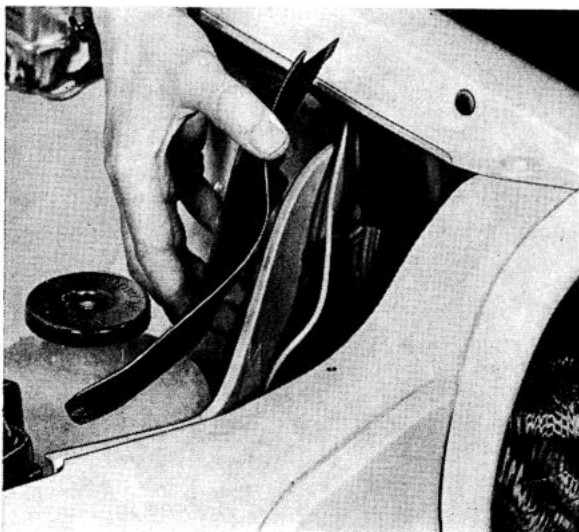

Fig. 3-63. Removing the plastic cover
1. Remove the screw and take off the plastic cover over the space behind the headlight, see Fig. 3-63.
1. Remove the screw and take off the plastic casing over the space behind the headlights, see Fig. 3-63.